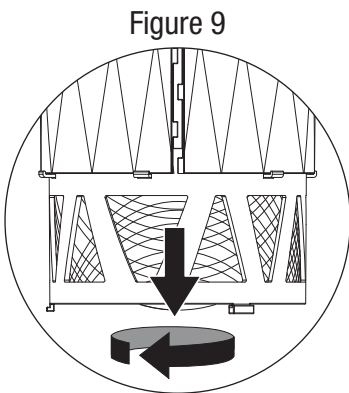

Figure 9
4. Remove the catch cup by rotating it counterclockwise (Figure 9).